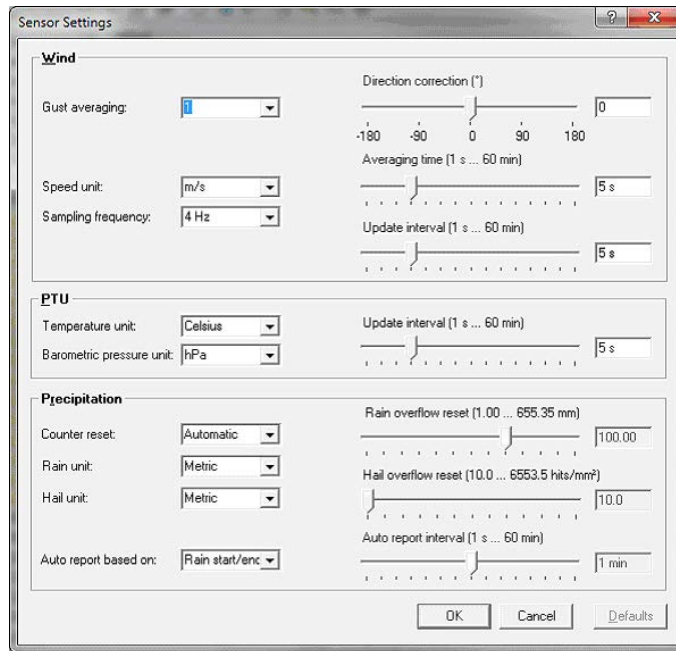

FIGURE A-3. Sensor Settings screen
8. Go to the Sensor Settings Screen (see Figure A-3). The default Wind and PTU Update intervals are set to 5 s.